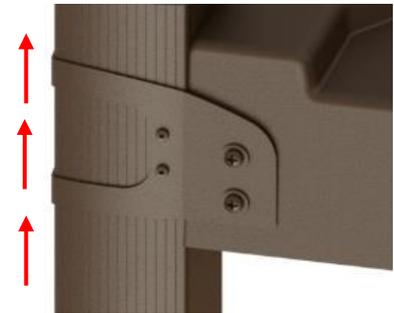

Figure 77
- 7) Verify the installation of the brackets by trying to lift each **inner** sleeve. Review steps 3 to 6 for any broken screws or to retighten screws if an inner sleeve continues to move. (Figure 77)